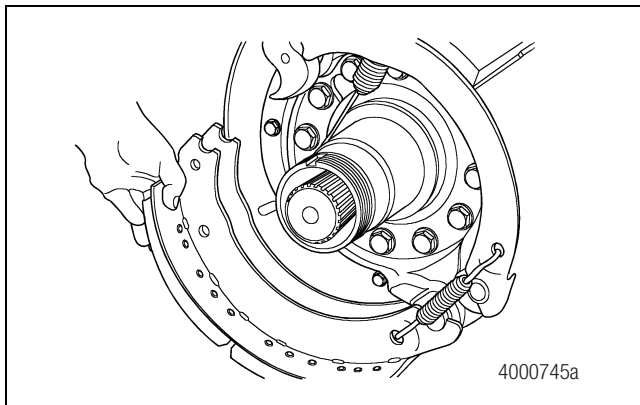

Figure 4.18
1. Remove the cam brake return springs and brake shoes from the brake spiders. Figure 4.18.